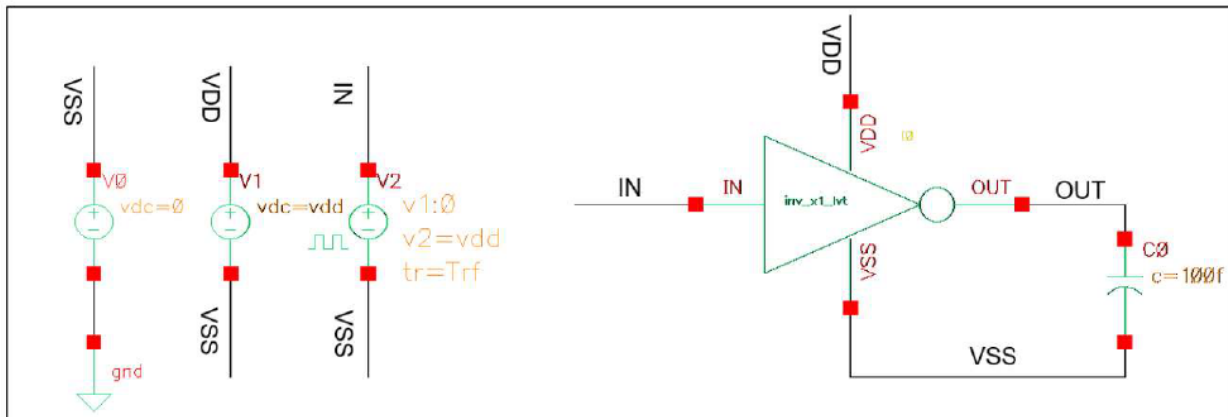

Figure 12. Testbench tran analysis of INV
- Assemble the circuit as shown in **Figure 12**, setting parameters for power supplies (using **vpulse** source), with $L_n = L_p = 45\text{nm}$, $C_{load} = 100\text{fF}$, $vdd = 1.0\text{V}$ W_N , W_P in **Experiment 1**.